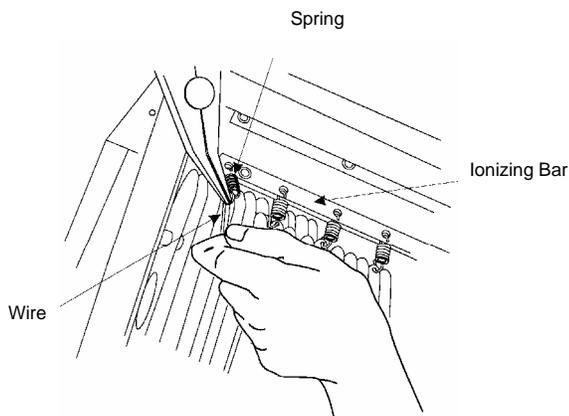

Fig. 11 — Replacing An Ionizing Wire
6. Using the needle-nose pliers, grab the end of the spring and stretch towards loop in wire. Place eyelet in wire over spring hook and release spring. See Fig. 11.